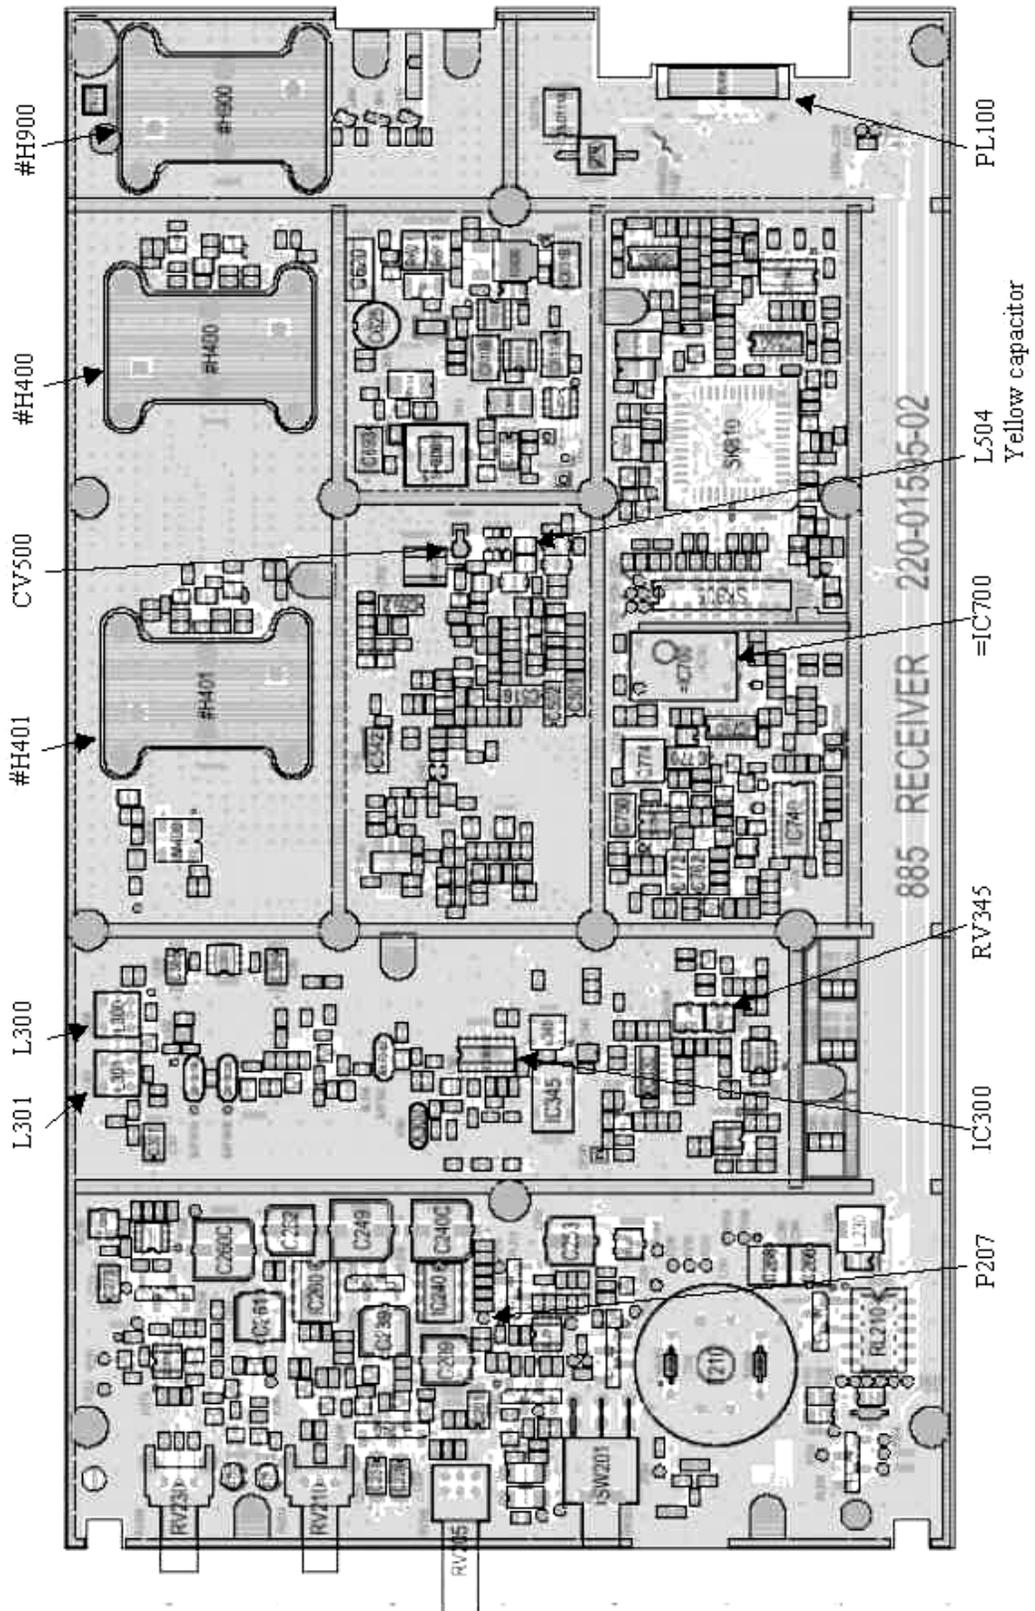

Figure 20 - T885-0200 Receiver Tuning Controls location
- Caution: mis-adjusting RSSI may reduce the Paragon-III's Parallel Decode (PD) performance.
- Refer to Figure 20 - T885-0200 Receiver Tuning Controls location